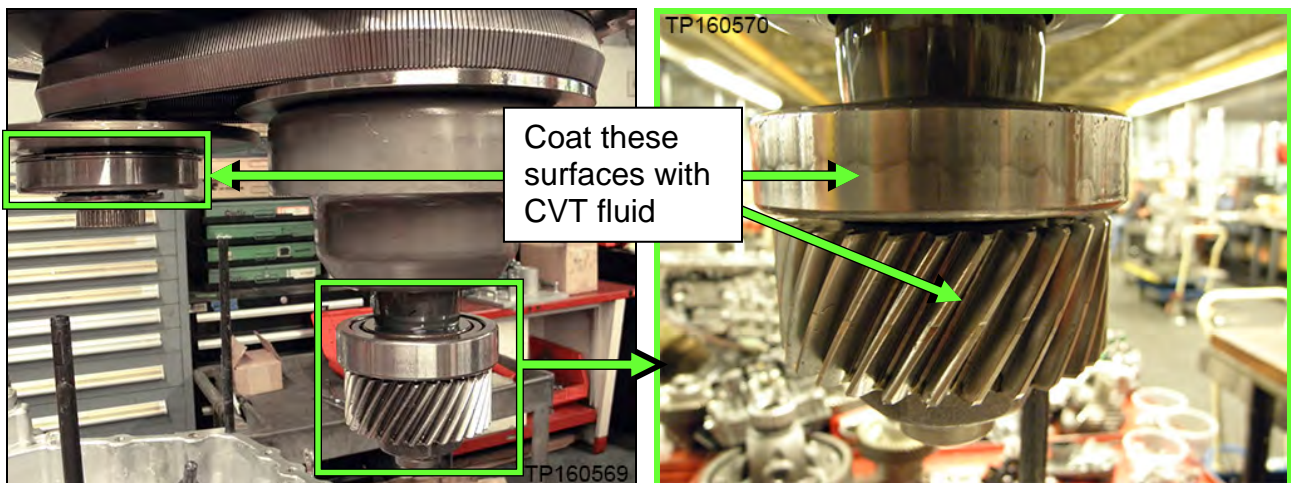

Figure 22F
19. Coat the primary pulley bearing, secondary pulley gear teeth and the secondary bearing with CVT fluid prior to installation (Figure 22F).